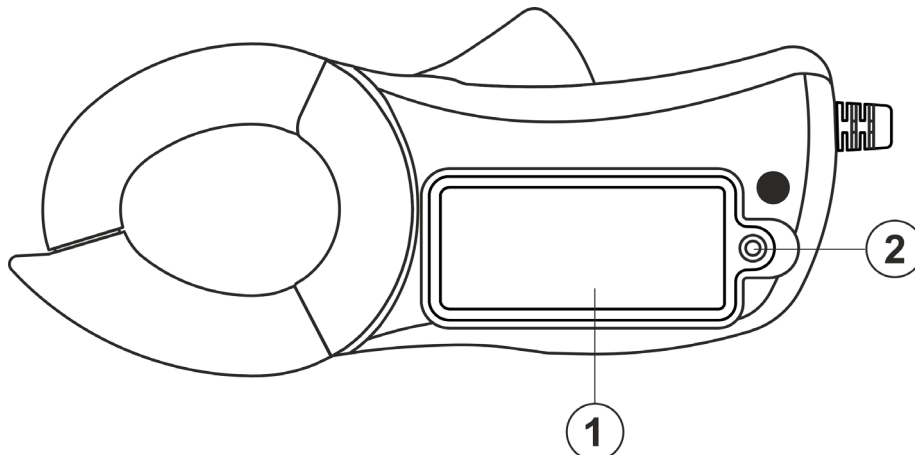

Fig. 6: Battery replacement
2. Loosen the fastening screw (see Fig. 6 – part 2) of the battery compartment cover (see Fig. 6 – part 1), remove the cover and remove the batteries.